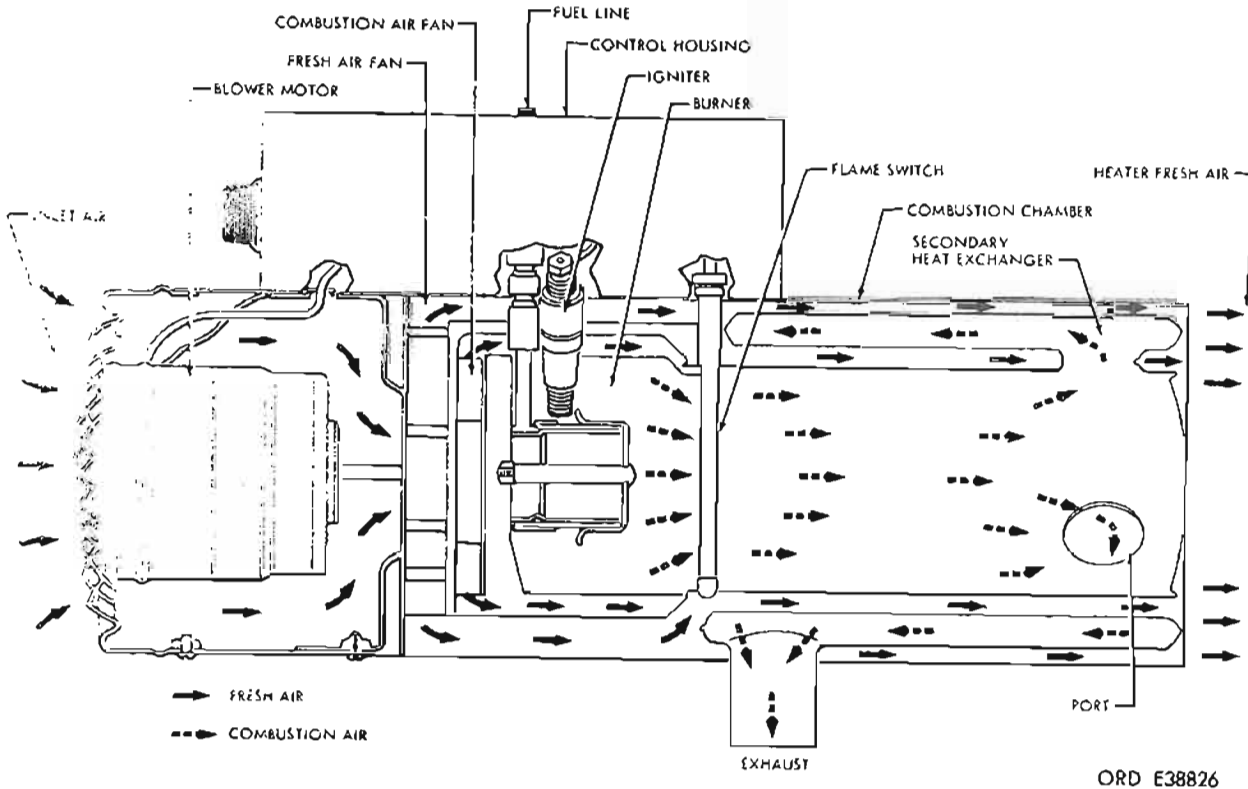

Figure 18-51. Flow system—side view (11092508 heater).
(1) *Combustion and ventilating air system.* The air system consists of the blower motor, fan, and air passages through and around the combustion chamber. The blower motor supplies both combustion air and fresh air for the heater. The motor has a single shaft and operates a dual, backward-tip fan. Air is drawn into the screened end of the heater (fig. 18-51), passes over the blower motor (for cooling), and enters the split-type backward-tip fan. The fan, consisting of a larger fresh air impeller and smaller combustion air fan, distributes the intake air to the two heater air